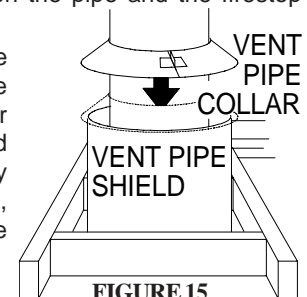

FIGURE 15
A vent pipe shield will prevent any materials such as insulation, from filling up the 1" air space around the pipe. **FIGURE 15.** Nail headers between the joist for extra support.
7. In the attic, slide the vent pipe collar down to cover up the open end of the shield and tighten. This will prevent any materials, such as insulation, from filling up the 1" air space around the pipe. **Figure 15**.